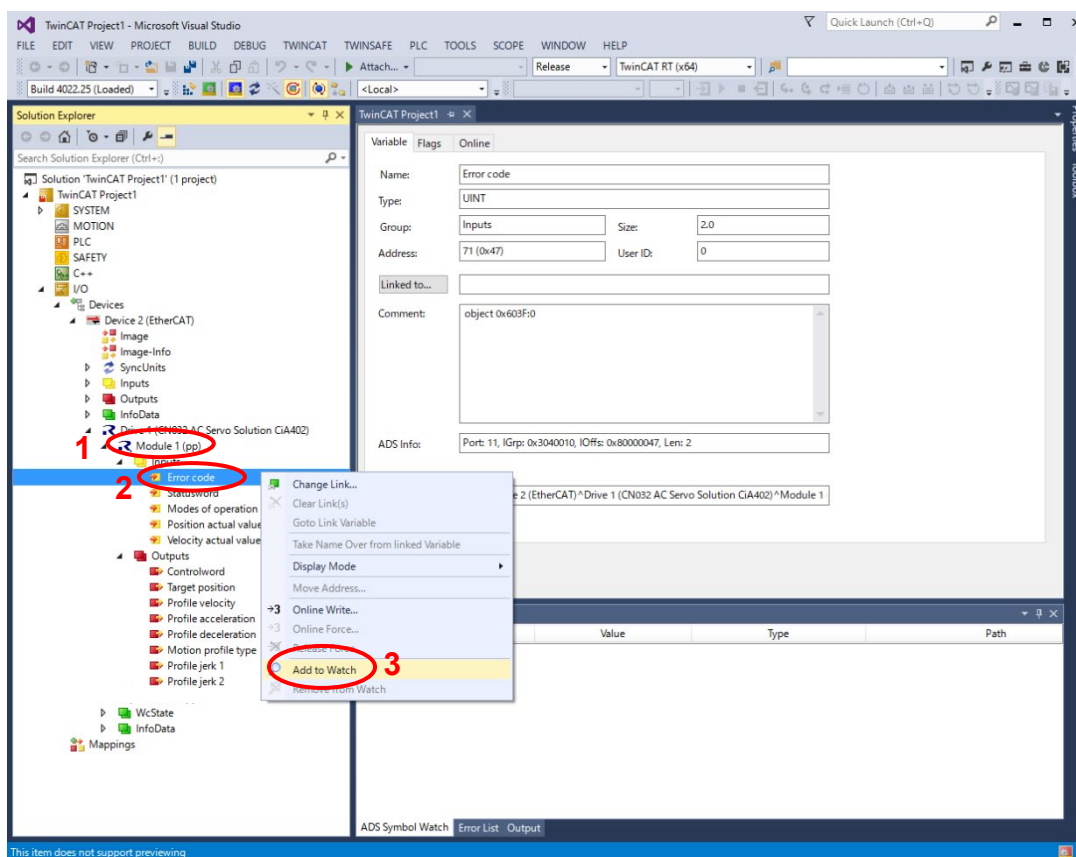

Figure 4-9 Adding values to a watch
Make sure Module 1 is applied to the operation of Profile position mode (1). Expand the “Drive x (CN032_AC_Servo_Solution_CiA402)” tree and expand “Module 1” as far as possible as shown in Figure 4-9. For the sake of comfort add the input values to an extra watch window by right-clicking at a value (2) and selecting “Add to watch” (3).